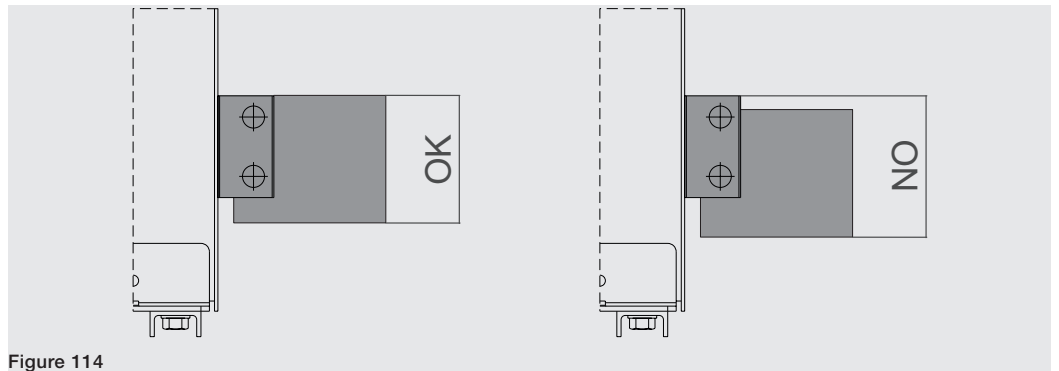

Figure 114
- Guarantee the maximum use of the surface of the terminal. See the example Figure 114.